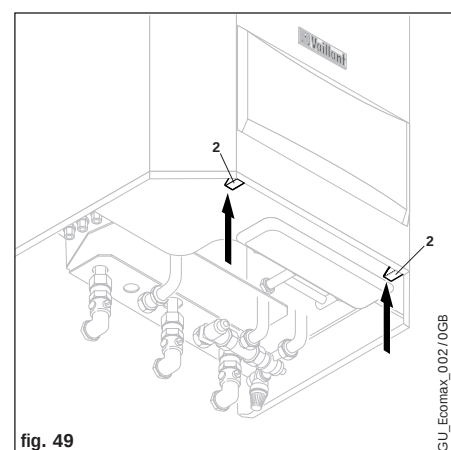

fig. 49
- Release the front case spring retaining clips located beneath the front edge of the appliance (fig. 49).